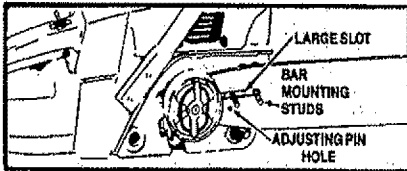

Figure 8
- Position the guide bar with the round hole below the large slot, Figure 8.
- Mount the slotted end of the guide bar over the bar mounting studs and the small round hole on the adjusting pin, Figure 8.